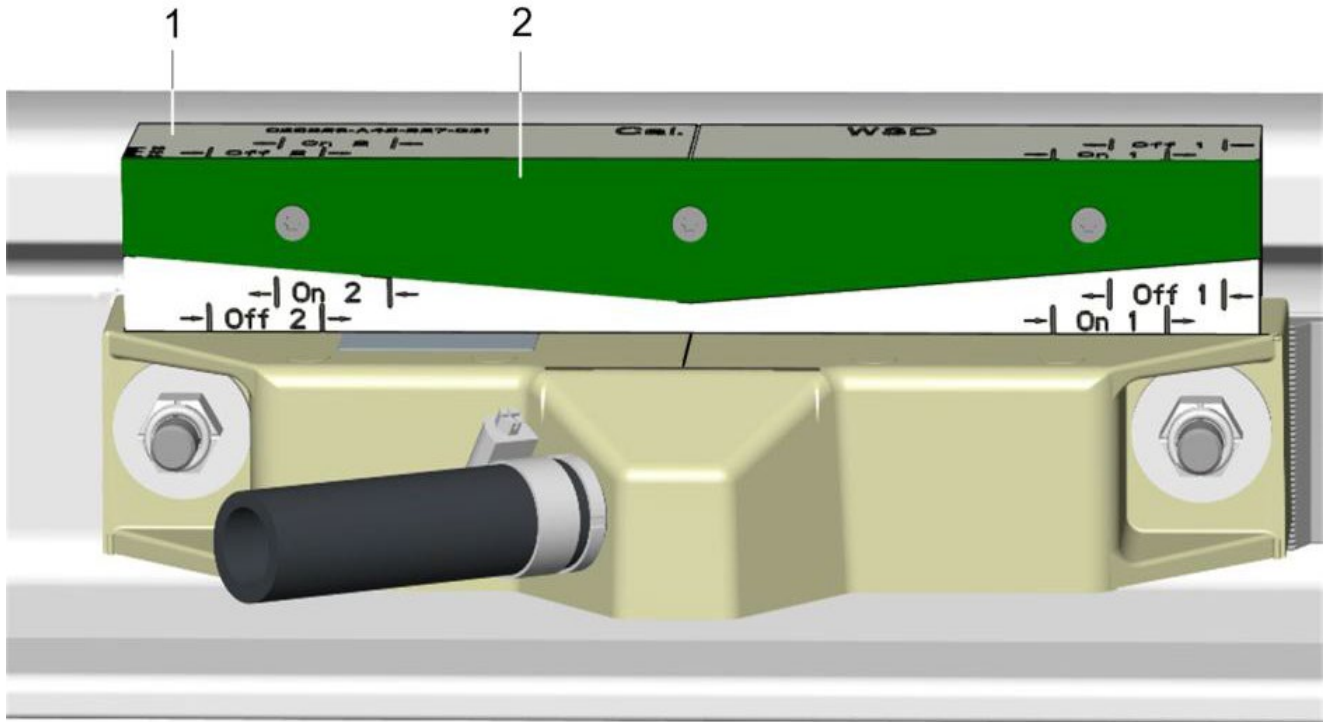

Figure 1 – Positioning of the adjustment gauge on the wheel detector
1.3 Place the adjustment gauge on the top (see figure 1) of the wheel detector as follows:
- 1.7 Return the adjustment gauge to its initial position (see figure 1 and Step 1.3).